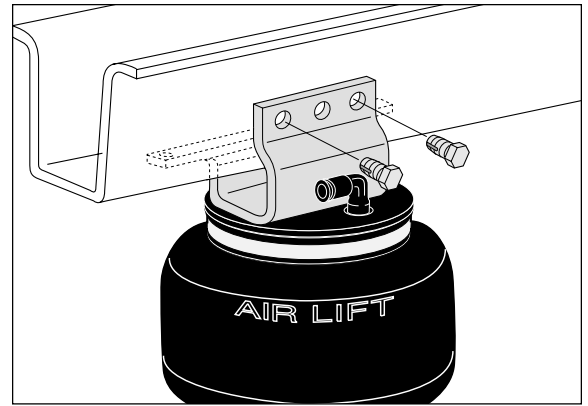

Figure 5
- c. Install two $\frac{3}{8}$ " self tapping frame bolts (L) and tighten to 15 ft-lbs (Figure 5).